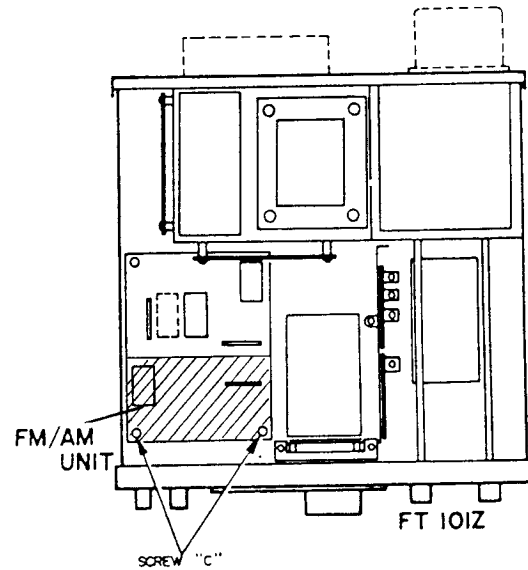

Figure 13
2. Remove the two screws (shown as "C" on Figure 13) from the IF unit, and replace with the two post screws supplied.
- (2) Refer to Figure 13, and remove the mounting screws marked "C" on the IF unit.
- (3) Refer to Figures 13 and 14, and install the AM unit atop the IF unit, using the mounting towers and screws supplied.